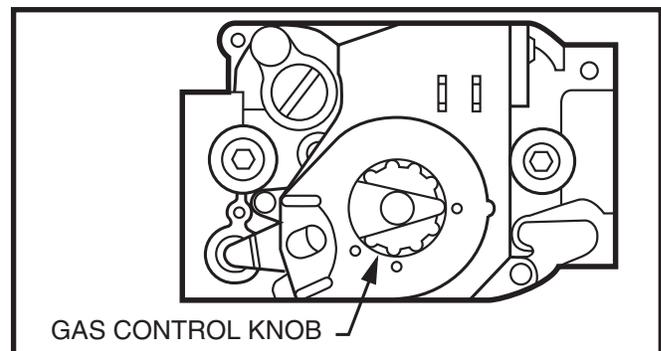

Figure 30. Direct Ignition Gas Valve - Honeywell
- **Honeywell:** push in and turn the gas control knob clockwise to **OFF**. See Figure 30.
- **Honeywell:** push in and turn gas control knob counter-clockwise to **ON** (Figure 30).
- **Honeywell** (Figure 30): Turn gas control knob clockwise to **OFF**, **Robertshaw** (Figure 28): Push the gas control lever to **OFF**.
- **Honeywell:** push in the gas control knob and turn clockwise to **OFF** (Figure 30).
- **Honeywell:** push in and turn the gas control knob clockwise to the OFF position (Figure 30).